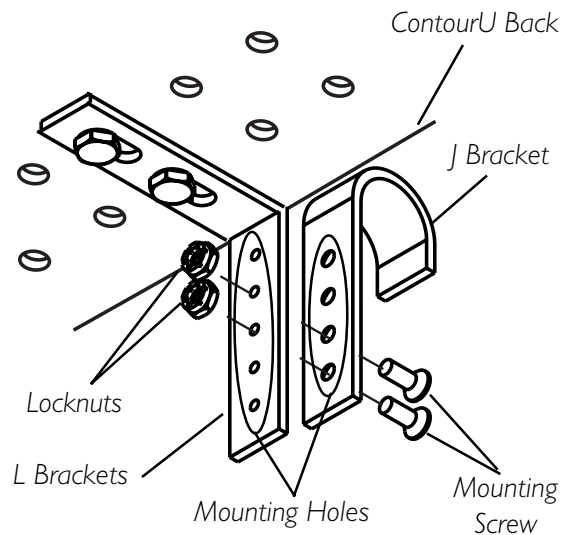

FIGURE 9 - INSTALLING THE SEAT J BRACKETS
INSTALLING THE SEAT J BRACKETS (FIGURE 9)
2. Align two (2) of four (4) mounting holes of the J bracket with two (2) of five (5) mounting holes on the L bracket as shown in FIGURE 9.
3. Using two (2) mounting screws and locknuts, secure the J bracket to the L bracket. Securely tighten mounting hardware.
4. Repeat STEPS 2-3 with three (3) remaining J brackets.